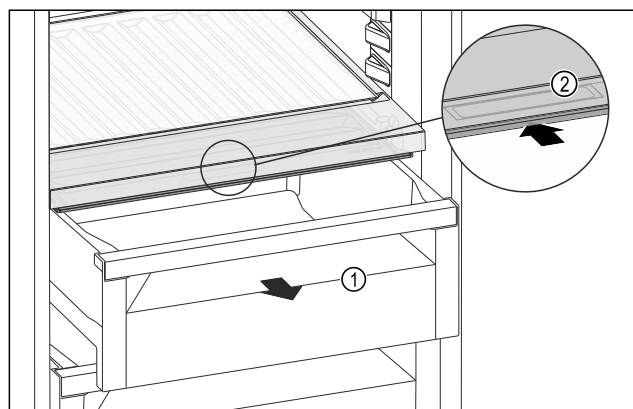

Fig. 148
- Pull out the drawer Fig. 148 (1).
- Grasp the recessed grip Fig. 148 (2) on the compartment lid and push the compartment lid backwards at the same time.